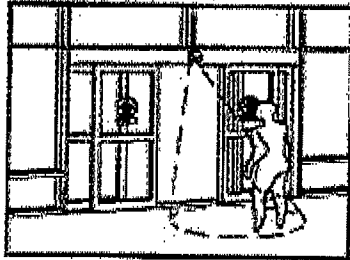

Figure 1
1. Check electronic sensor by walking toward the door at a moderate speed. When about 5' (1524mm) from the opening, it should smoothly start sliding open and then stop without impact. Repeat on the other side of the opening. Move slowly through the door at 6" (152mm) per sec. The door should remain open (See Figure 1).